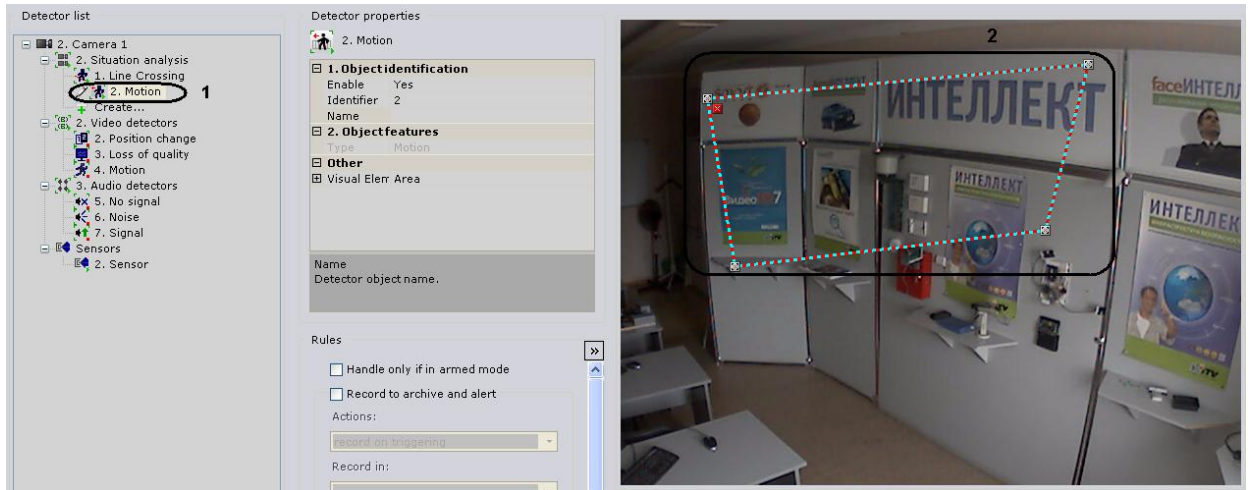

Fig. 6.5—9 Setting an area
1. In the detector list, highlight the detector object for which you need to set an area (Fig. 6.5—9, 1).
2. In the viewing tile (see Fig. 6.5—9, 2) sequentially set the nodes of an area in which the situation is to be analyzed (Table 6.5—5).